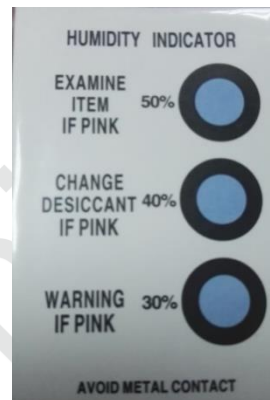

Figure 13 Temperature and humidity indicator CARDS
- Sealed packaging is equipped with humidity indicator card, as shown in Figure 13.